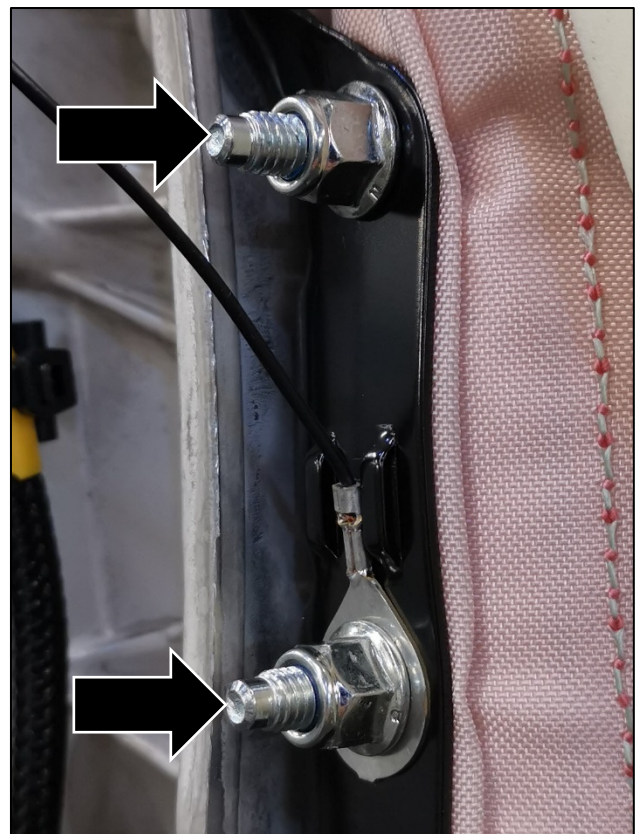

Figure 7
- The lower fixing that clamps the ground eyelet must show a minimum of 4 visible threads. The upper fixing must show a minimum of 5 threads (refer to Figure 7).